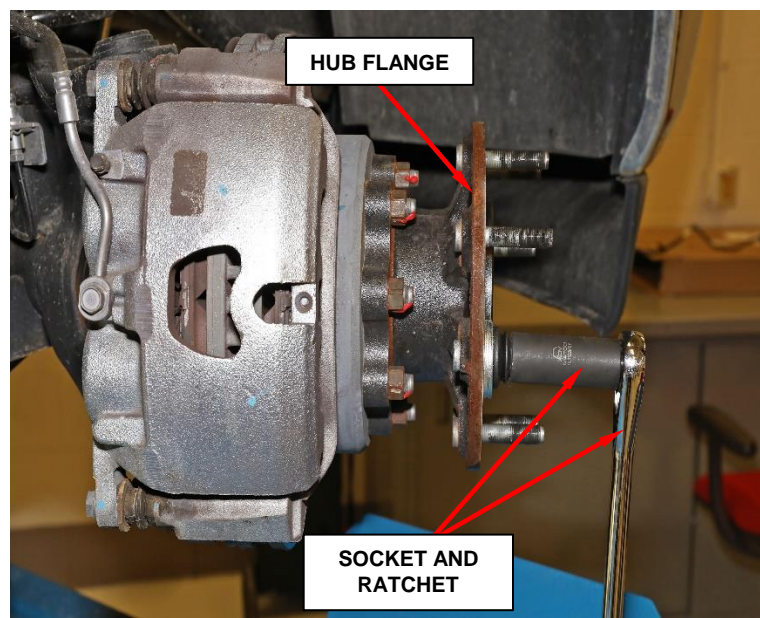

Figure 6 – Wheel Stud Installation
6. Tighten the lug nut until the stud is pulled into the hub flange. **Verify that the stud is properly seated into the flange and no gap is present** (Figure 6).